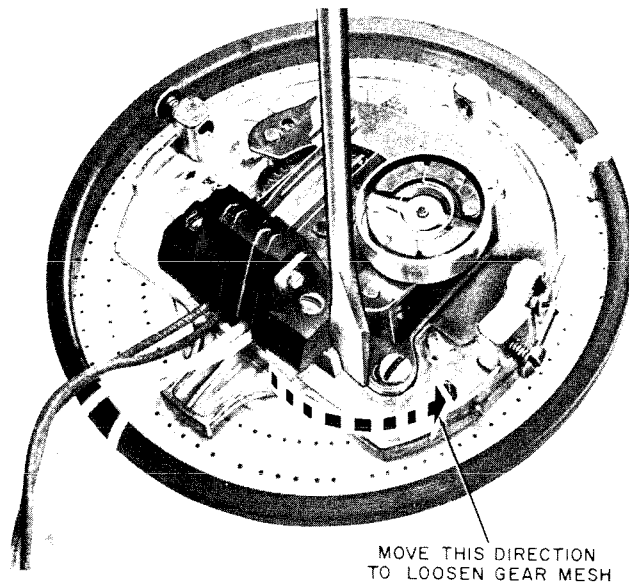

Fig. 29—Using Screwdriver to Loosen Gear Mesh
(3) To loosen gear mesh, place screwdriver blade between contact spring-block mounting support and gear train assembly (Fig. 29). Twist blade enough to slightly move the assembly. Test dial each time the assembly is moved using methods described in steps (4) through (7) in 3.32.
(4) Tighten screw A when adjustment is completed.
(5) Dial a series of zeros to test dial.
(6) If dial still does not operate properly, reassemble dust cover and replace dial.
(7) If dial operates properly, replace dust cover.
(8) Reassemble dial.